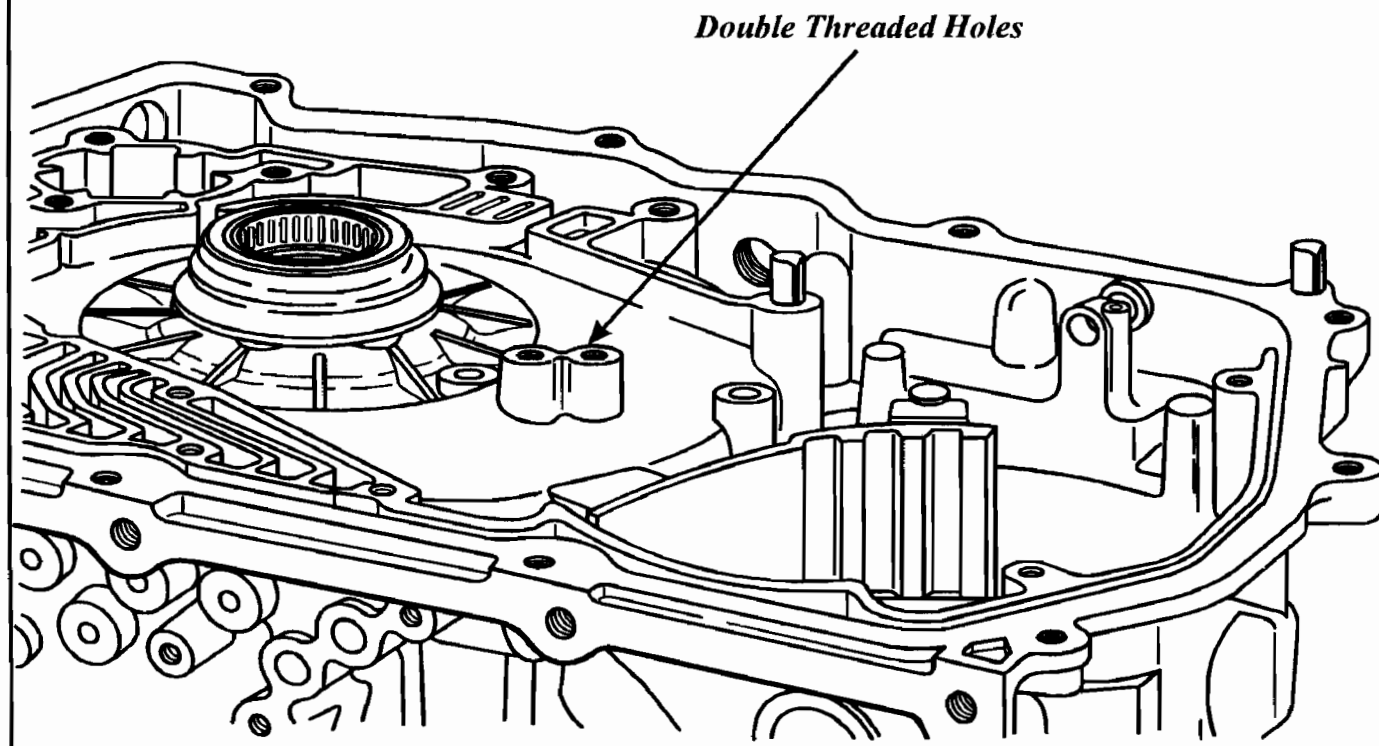

Figure 2
- (1) **TRANSAXLE CASE** - Added boss and the second threaded hole to the case in the area shown in Figure 2, to accommodate valve body bolt and channel plate changes for improved clamping. The previous design case, with the single boss and hole is shown in Figure 1.